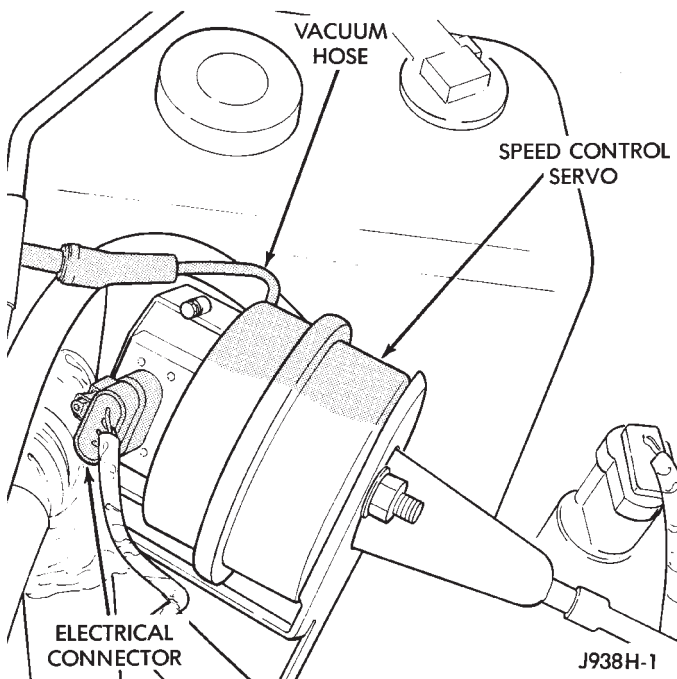

Fig. 2 Servo And Harness Connector
- (1) Turn ignition switch to the ON position.
- (2) Push the speed control switch to the ON position.
- (3) Connect the negative lead of a voltmeter to a good chassis ground near the servo.
- (4) Disconnect the 4-way connector going to the servo (Fig. 2). The blue wire with the green tracer of the main harness 4-way connector should read ap-